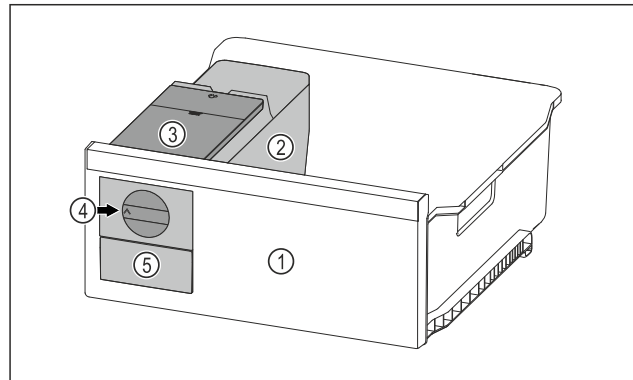

Fig. 122 Example illustration
- Turn the rotary knob Fig. 122 (4) clockwise as far as it will go.
- Ice cubes fall from the ice cube tray into the ice cube drawer Fig. 122 (5).